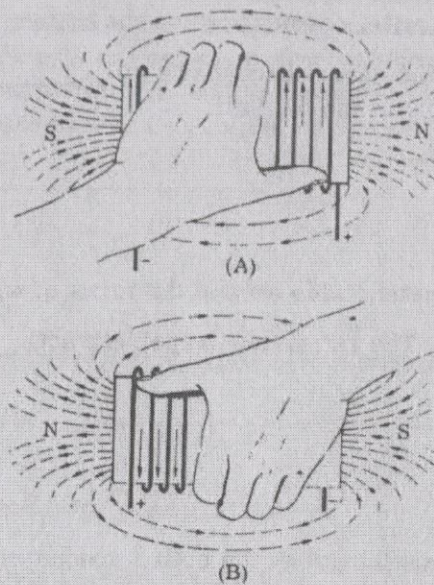

Figure 6-8. The left-hand rule for coil polarity.
34. There is also a left-hand rule for coils, which is illustrated in Figure 6-8 on the next page. If you grasp a coil in the left hand, with the fingers "wrapped around" the coil in the direction of current flow, the thumb will point toward one of the poles.